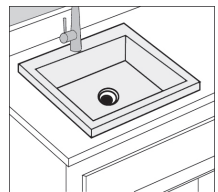

Figure 6
10. After the sink is positioned and securely in place, place the plumber's putty around the underside of the faucet body or its mounting plate and install it into the sink (Figure 6).